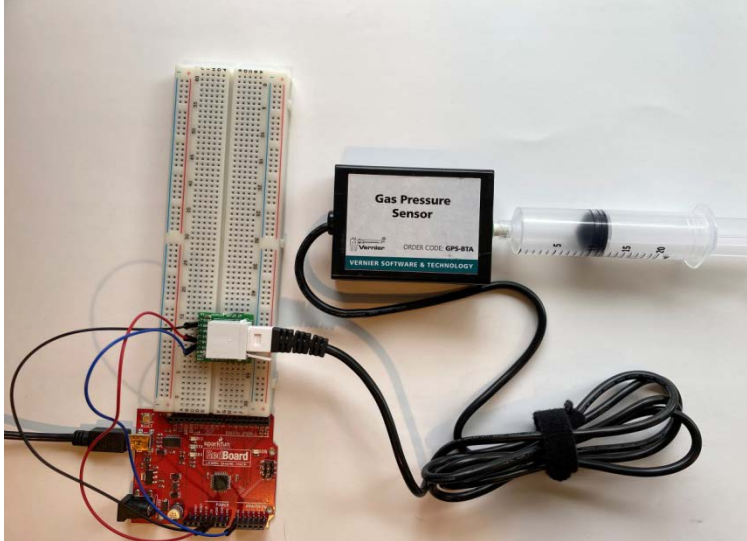
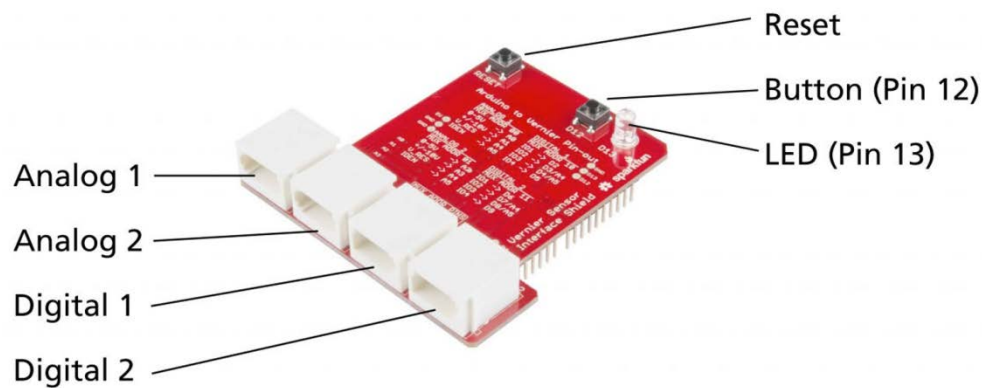

Figure 1 Displayed is a Vernier Protoboard Adapter on a protoboard, wired to an Arduino. The sensor cable plugs into the adapter.
Figure 2 The Vernier Interface Shield pin headers connect to the RedBoard and make the connection between the sensor pins and the RedBoard.
There are two ways to connect Vernier sensors to an Arduino board. One method requires simple wiring and a protoboard adapter (Figure 1), while the other involves using a shield (Figure 2) that sits on top of the Arduino board and makes the necessary connections.
1. Set the plunger on the syringe to about 10 mL and attach it to the Gas Pressure Sensor, as shown in Figure 1.